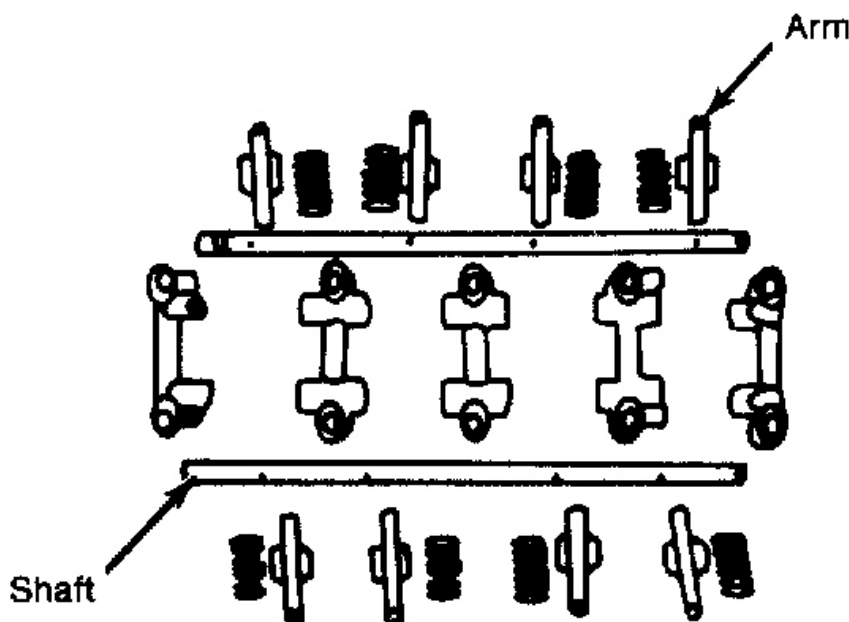

Fig. 7: Disassembled View of Rocker Arm Assembly
2. If clearance exceeds maximum limit, replace rocker arms and/or shafts. Reassemble in reverse of disassembly. Note that rocker arms are identical. See **Fig. 7**.